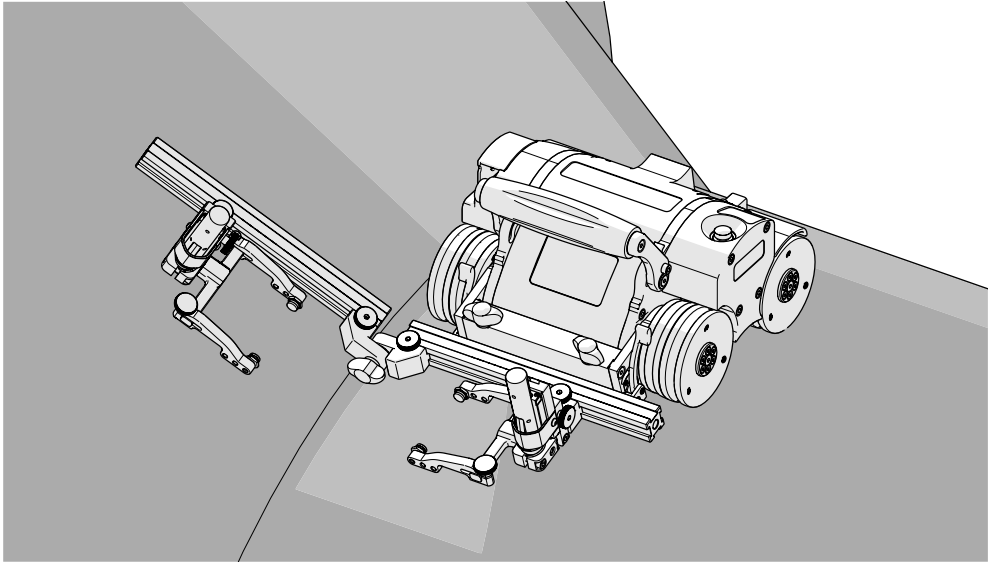

Fig. 174 - Align frame bar with flange scan surface
4. Loosen the pivot wing knob and align the frame bar parallel with the scan surface (*Fig. 174*).